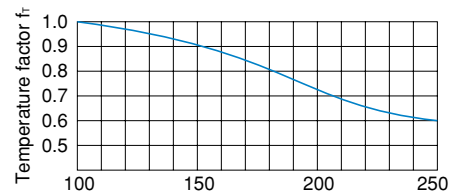

Fig. 1 Temperature Factor (fr)
- C : Basic dynamic load rating\* (N)
- Pc : Dynamic equivalent radial load (N)
- fr : Temperature factor (see Fig. 1)